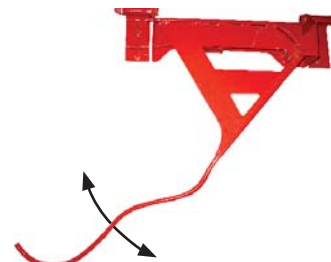

Figure 27 - Limit Switch - 7, Paddle Arm Adjustment
LS-7 should be adjusted such that the switch closes when there are no bales under the Index Paddle and the switch deactivates when the Index Paddle is raised by a bale. The Index Paddle should be adjusted such that it deactivates and stops the load bed 0" - 2" below the bale table to receive the next tier. This range of adjustment will vary depending on variations with material and bale shape. Additional adjustment might need to be made to the Index Paddle Arm if the Index Paddle Mount cannot be adjusted any farther (see Figure 27).
5. If additional adjustment is required after moving the Index Paddle, bend the Paddle Arm to achieve the desired height (see Figure 27).